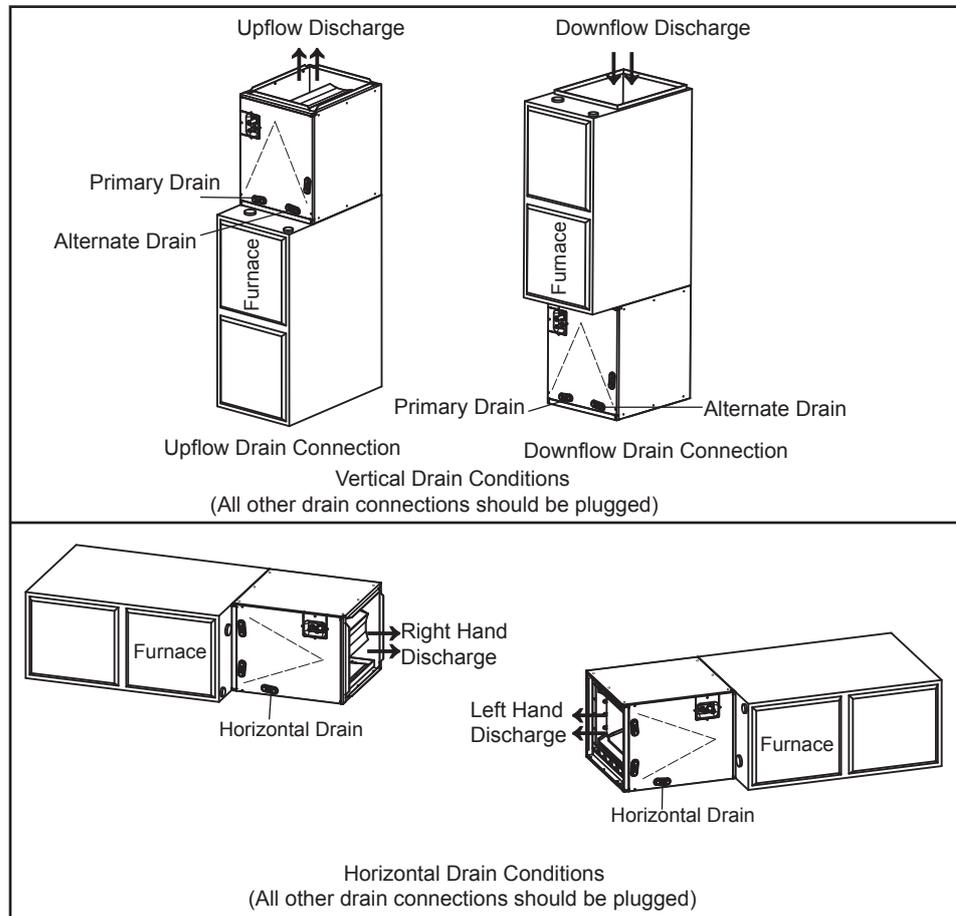

Fig.4 INSTALLATION OF CASED COIL
1. See Fig.4 for coil installation and drain connection.
- C. Ensure that the coil is leveled well and seal the gap between coil and furnace. See Figure 4. In case that coil and furnace sizes are not matched, use proper size of sheet metal or other material to fill the gap and seal the gap to prevent air leak ;
Install a trap in the drain line below the bottom of the drain pan. If using a copper drain line, solder a short piece of pipe to the connector before installing a drain fitting. DO NOT over torque the 3/4" copper connector to the plastic drain connection. Use a wet rag or heatsink material on the short piece to protect plastic drain pan, complete the drain line installation (Fig.4). Use (Fig.6) as a template for typical drain pipe routing. This figure shows how to avoid interference with vent piping.